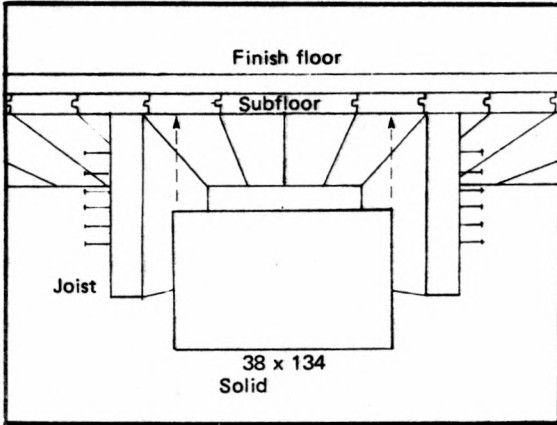

FIG. 10-3 REPAIRING SQUEAKING BY INSTALLING BLOCKING BETWEEN JOIST
- (1) Drill small pilot holes through the hardwood into the joists or subfloor.
- (2) Drive special flooring nails (they have rings around them with shaped edges for extra holding power) into the joists or subflooring.
- (3) Use a nail set to countersink the nailheads about 3 mm (1/8 in.) below the floor surface.
- (4) Fill the nail holes with wood putty and sand when dry.
- b. Solid blocking between joints: (see Figure 10-3)
- (1) Cut a section of 50 mm x 200 mm (2 in. x 8 in.) lumber to fit between the joists where the squeak is.